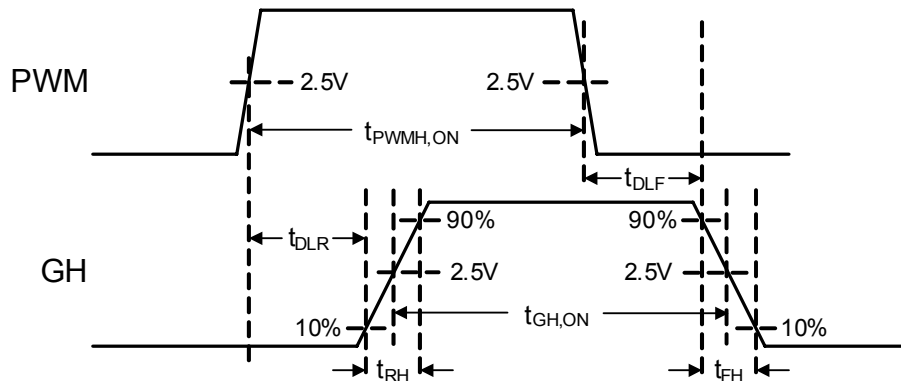

FIGURE 3. TIMING DIAGRAM
- 13. $t_{GH,ON}$ timing is shown in Figure 3.